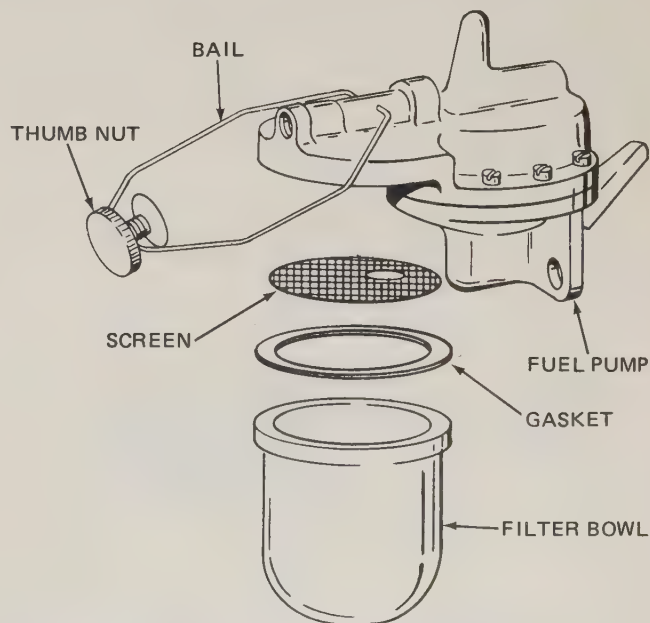

FIG. 18-7 Sediment-bowl type of fuel filter with the filter bowl removed.
**18-2 FUEL-FILTER SERVICE** There are three general types of fuel filters, or fuel strainers. One type has a separate detachable sediment bowl that usually is made of glass. This type of fuel filter is shown in Fig. 18-7. A second type of fuel filter is a strainer. It attaches to the end of a flexible hose which is inserted inside the fuel tank, as shown in Fig. 18-9. This is the type of fuel strainer used on engines that must operate in any position, such as chain saws. Regardless of the position of the fuel tank, the weighted strainer will fall to the low part of the tank, where the fuel is. The end of the hose always will be covered by fuel.
To clean the sediment-bowl type of fuel strainer, shown in Fig. 18-7, close the shut-off valve which is used with the gravity-feed fuel system. This will prevent fuel from flowing out of the fuel tank while the bowl is off. Loosen the thumb nut on the wire bail, and swing the wire bail to one side. Remove the bowl